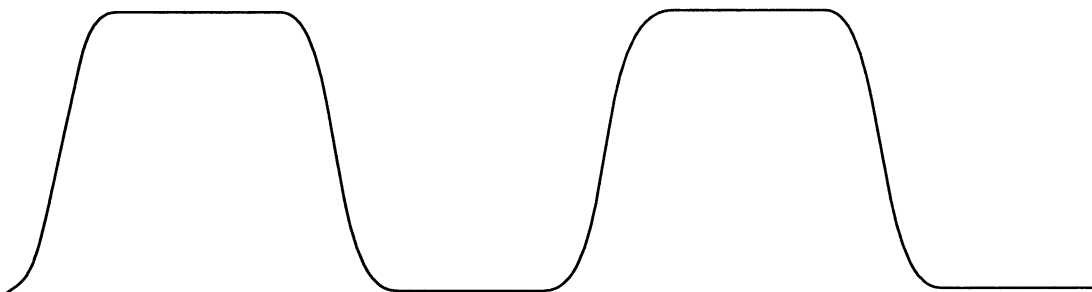

Figure 30. 1.5 kHz Filtered Square Wave
Step 25. Observe a 1.5 kHz filtered square wave on the console's demodulated output. This pattern is shown in Figure 30. The frequency of the injected tone must be $1.5 \text{ kHz} \pm 1 \text{ Hz}$. If it is not within this tolerance, the DSM can not properly recover clock from the signal. This situation results in "jitter" on the tone received by the console which effects deviation measurements.
Due to the narrow bandwidth of the console's receiver, the 1.5 kHz tone may be slightly distorted slightly from the illustration in Figure 30.